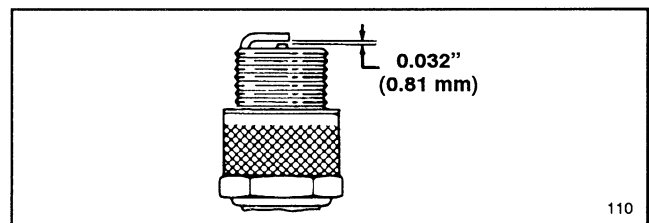

Figure 8
3. Set air gap at 0.032" (0.81 mm) (Fig. 8). Install correctly gapped spark plug and gasket seal. Tighten plug firmly to 10 ft-lb (13.6 N-m).